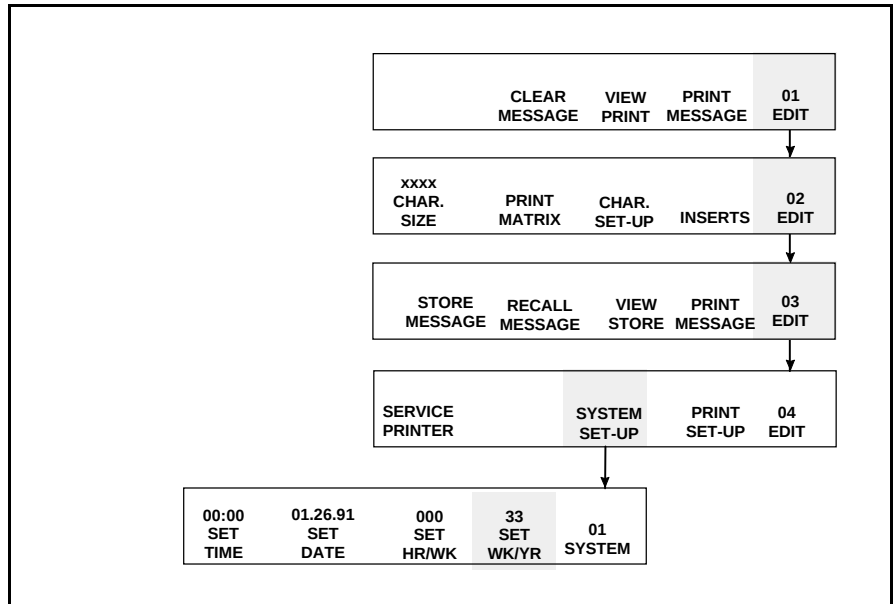

Figure 7-8. Accessing Frame <01 WK/YR>
The current week-of-the-year is displayed in Frame <01 SYSTEM>. Refer to Figure 7-8 below for directions to reach this frame.
1. Begin in Frame <01 SYSTEM>. Refer to Figure 7-8.